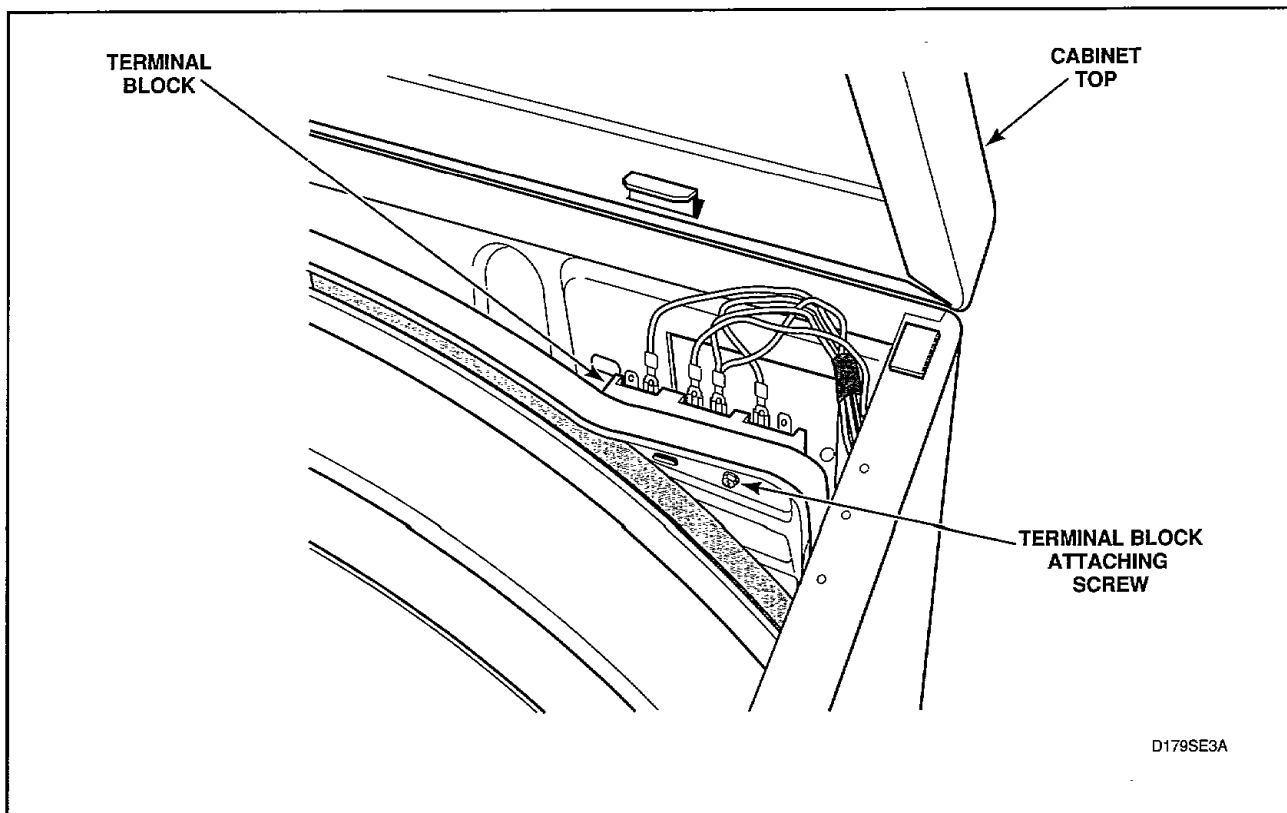

Figure 47
- (7) Remove all wires from terminal block. (Refer to appropriate wiring diagram when rewiring terminal block.)
- (8) Remove screw holding terminal block to rear bulkhead, *Figure 47*.